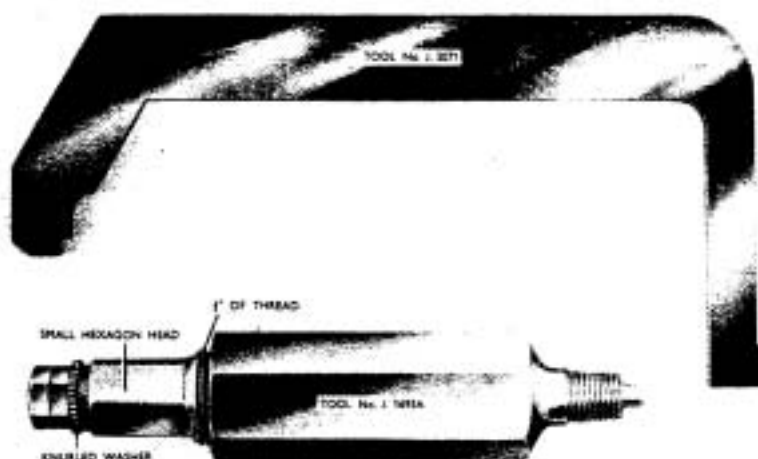

FIG. 4. GAUGES.
- (ii) Remove plug from front servo body. Adjust Gauge GM.No. J.1693A, Figs. 4&5, by loosening the small hexagon head until approximately $\frac{1}{4}$ " of thread is
- (i) Place the rear band adjusting Gauge GM.No.J.5071, Figs. 4 & 6, so that the small notch in the short end, rests on the corner of the machined face at the spring end of the rear servo body, and the tip of the long end rests along the servo piston rod.